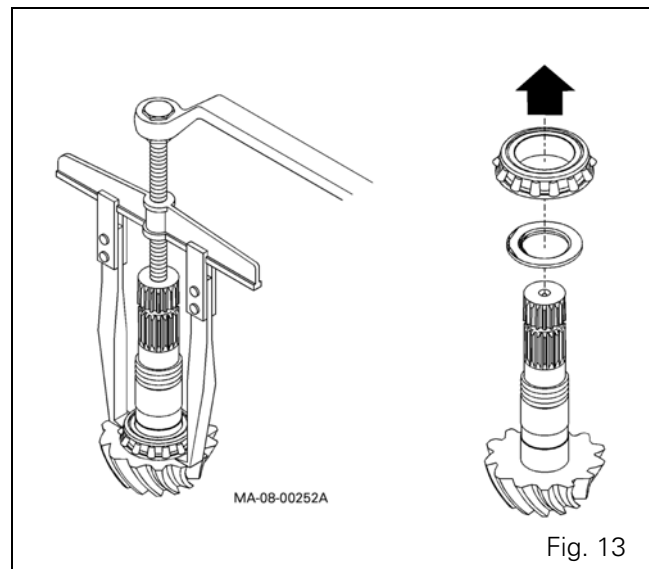

Fig. 13
18. Remove the inside cone of the pinion's tapered roller bearing using a standard puller. Recover the bearing cone and the shim located underneath it (Fig. 13).